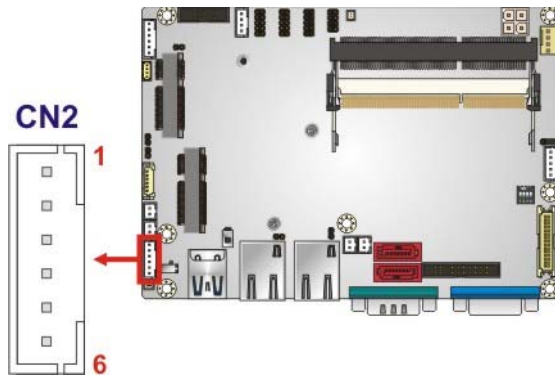

Figure 3-18: Power and HDD LED Connector Location
- CN Location:** See **Figure 3-18**